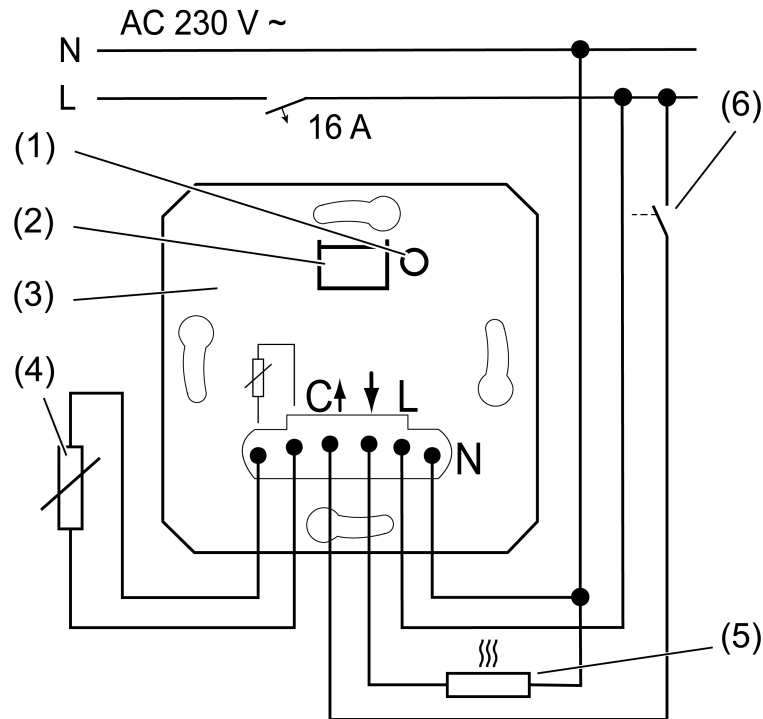
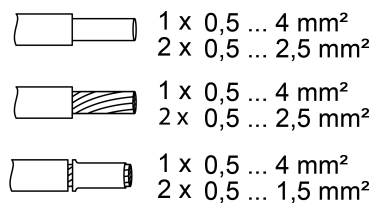

Figure 1: Connection example of the insert
Figure 2: Terminal-specific cable cross-section:
- Connect insert (3) according to the connection diagram (Figure 1). Note clampable cable cross-sections (Figure 2).
- Optionally connecting external remote sensor (4) (accessory).
- i** The load can be switched by briefly pressing the **TEST** button (1). LED (2) lights up when the load is switched on.